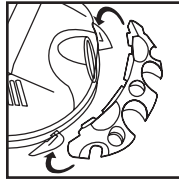

FIGURE 8
8. With rear of unit facing you, take tool holder and position it with tabs facing rear of unit. **FIGURE 8**.